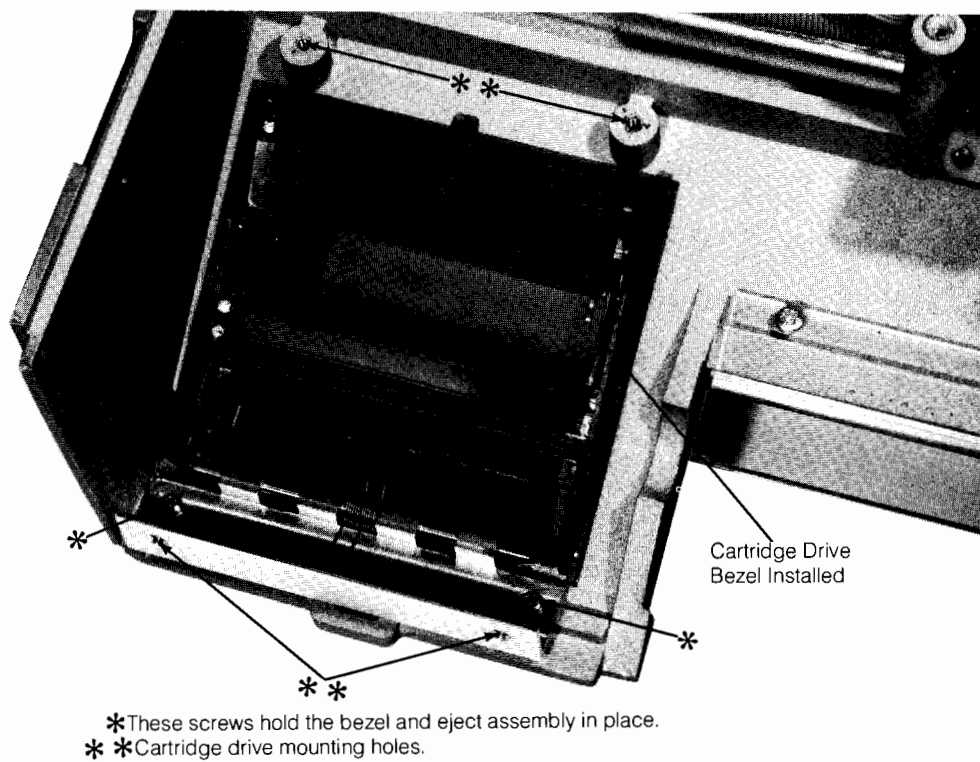

Figure 1-11: Transport Bezel Installation
- Place the cartridge drive bezel in the opening as shown in Figure 1-11.
- Install the cartridge eject assembly with the two screws that held the filler panel (see Figure 1-11).